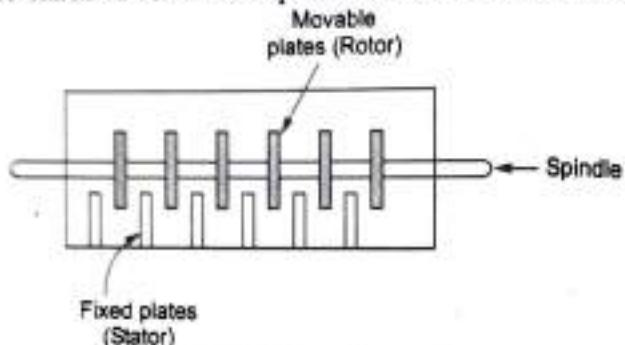

Fig. Q.6.1 Ganged capacitor
- Construction of ganged capacitor is shown in the Fig. Q.6.1. They are also called as air cored capacitor as the dielectric used is air.